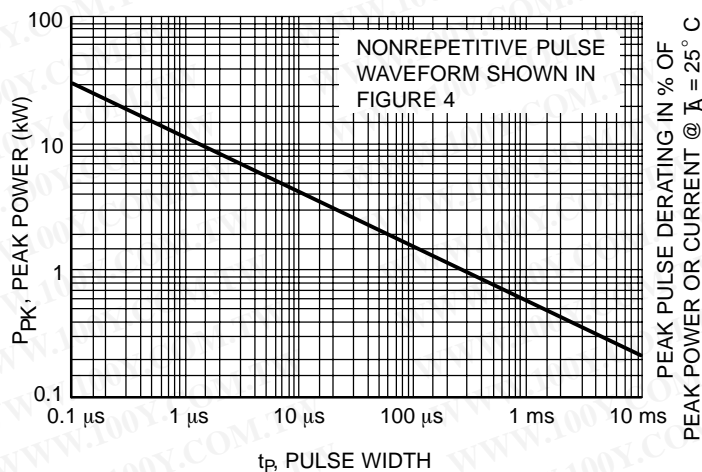
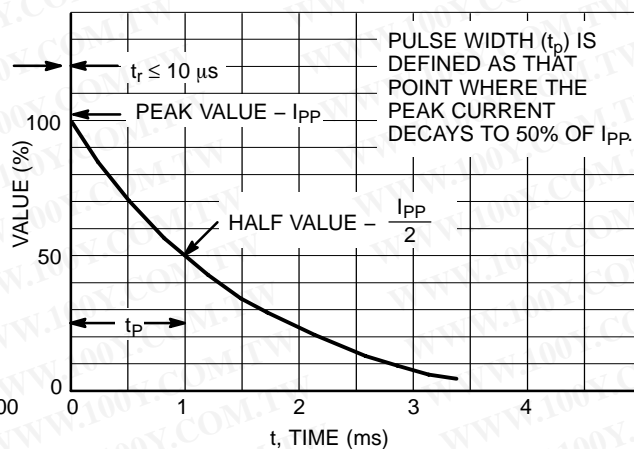
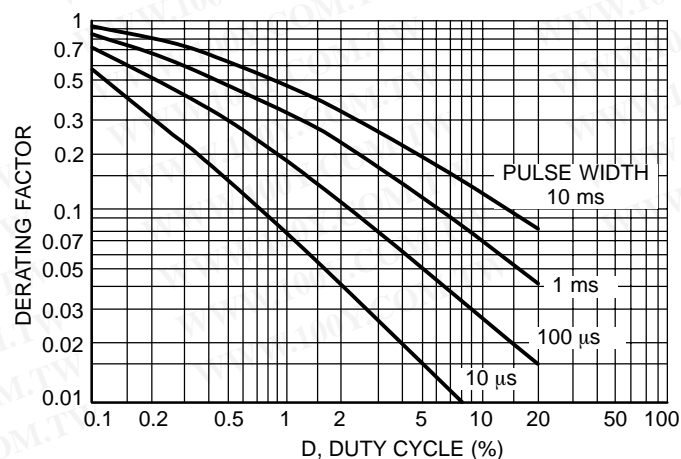

Figure 1. Pulse Rating Curve
Figure 4. Pulse Waveform
Figure 6. Typical Derating Factor for Duty Cycle
5. Surge current waveform per Figure 4 and derate per Figures 1 and 2.
The data of Figure 1 applies for non-repetitive conditions and at a lead temperature of 25°C . If the duty cycle increases, the peak power must be reduced as indicated by the curves of Figure 6. Average power must be derated as the lead or ambient temperature rises above 25°C . The average power derating curve normally given on data sheets may be normalized and used for this purpose.
At first glance the derating curves of Figure 6 appear to be in error as the 10 ms pulse has a higher derating factor than the 10 μs pulse. However, when the derating factor for a given pulse of Figure 6 is multiplied by the peak power value of Figure 1 for the same pulse, the results follow the expected trend.